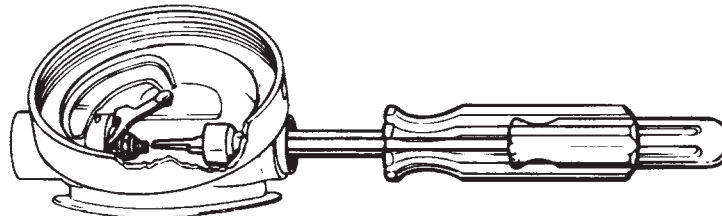

Figure 6
- ii) Place the screwdriver into the slot in the end of the poppet (item 9).
- iii) Slip the nutdriver onto the locknut (item 17).
- c) While holding the screwdriver stationary. Turn the nutdriver in small increments counterclockwise until you can no longer blow past the poppet. *Figure 6.*